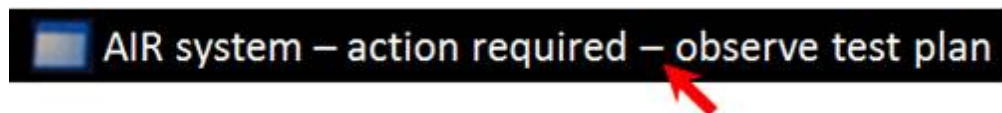

Figure 2. Message on ODIS tester.
1. In the ODIS tester click on the “**AIR system - action required - observe test plan**” message to follow the test plan (Figure 2).